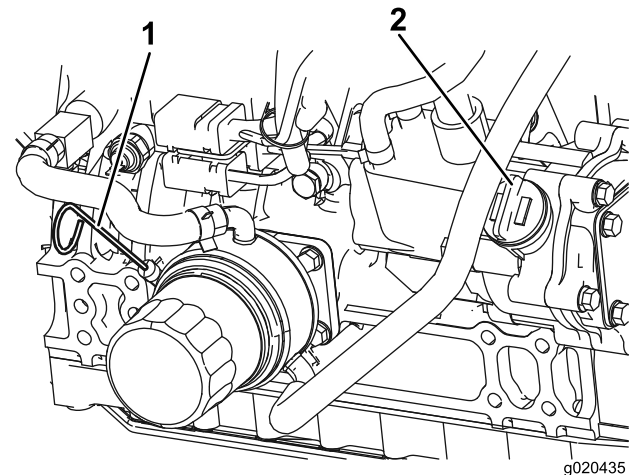

Figure 29
The oil level should be in the safe range (Figure 29).
4. If the oil is below the safe range, remove the fill cap (Figure 29) and add oil until the level reaches the Full mark. **Do not overfill.**